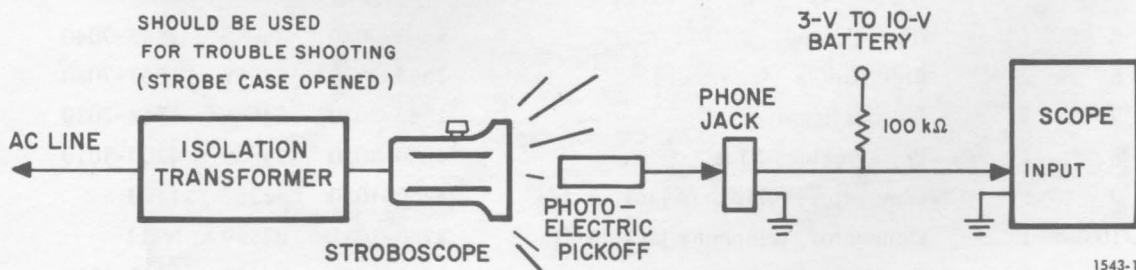

Figure 10. Calibration setup.
- a. Make the setup shown in Figure 10 and adjust the oscilloscope controls as follows: